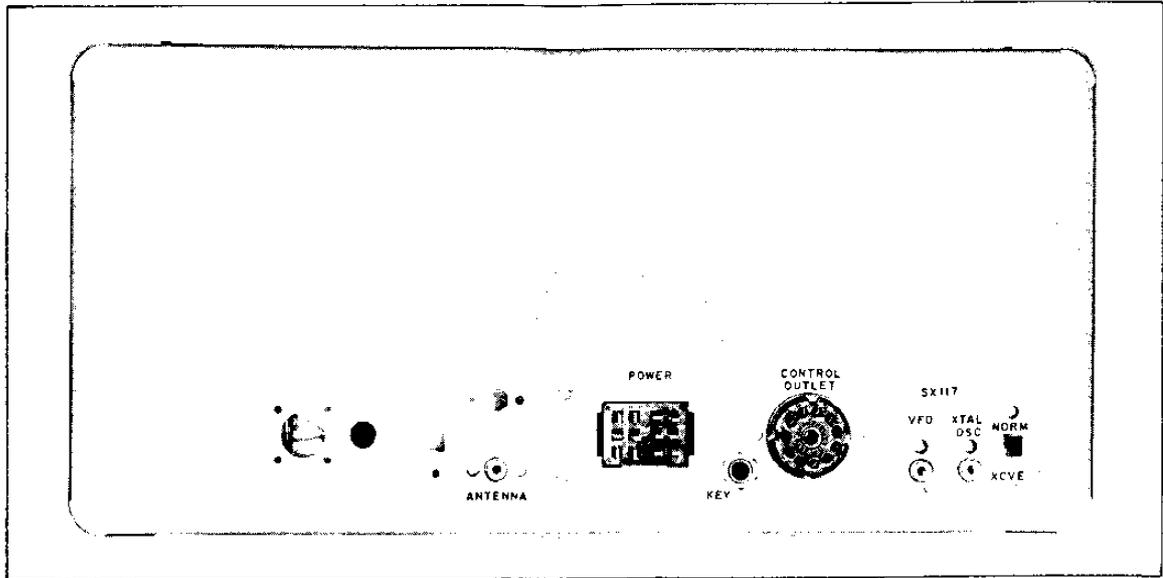

Figure 3. Rear View of Transmitter, Showing Connectors.
3.5. REAR CHASSIS CONNECTIONS. (See Figure 3.)